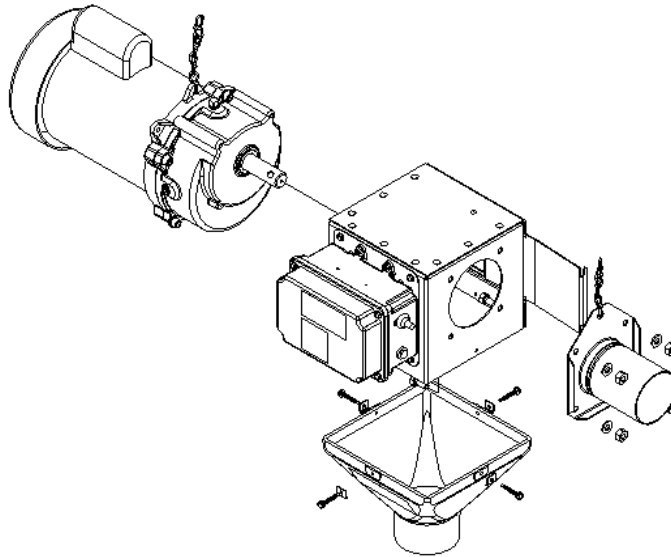

FIGURE 1
1. (Figure 1) Illustrates a typical installation example of the HS693 Feed Line Control Unit.